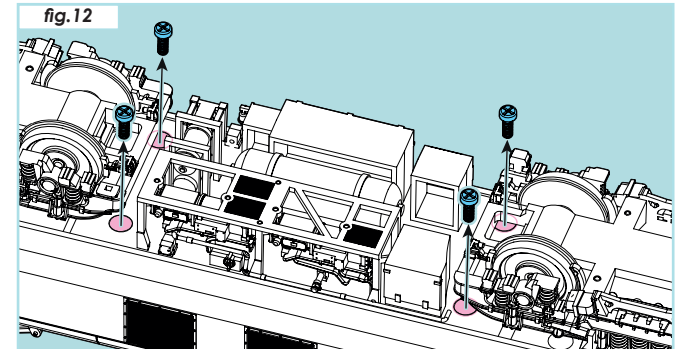

fig.12
1. Remove the four screws from the underside of the chassis, these are located under the inner corners of the bogies. The bogies will need to be rotated to allow access to the screws (fig.12).